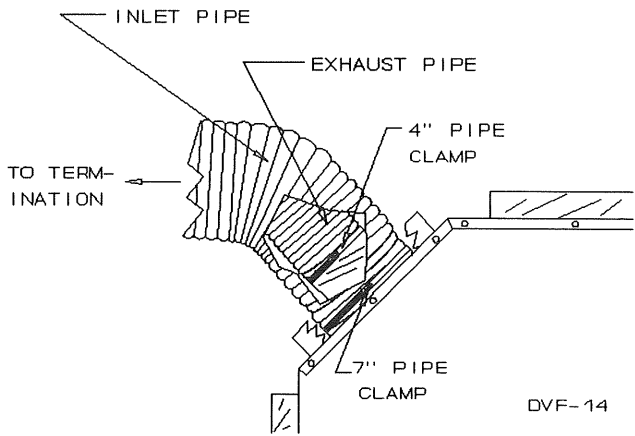

Figure 2
- 1) Install flex pipe to fireplace collar located on back of the unit at a 45 degree angle. Start with 4 inch pipe by sliding it over 3 7/8" starting collar on fireplace. Fasten pipe with 4" pipe clamp provided as shown in **Figure 2**.